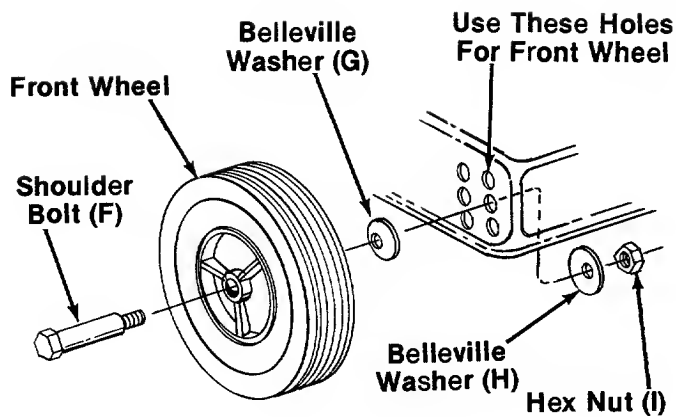

FIGURE 9.
14. **Units without height adjustment brackets**—If the wheels on your mower are not already assembled, proceed as follows. The front wheels must be assembled in one of the three holes nearest the front of the deck. See figure 9. The rear wheels must be assembled in one of the three holes nearest the rear of the deck. The three holes provide three cutting heights for your mower. Use the same hole location for all four wheels when assembling. If wheels are to be assembled in the lowest cutting position (highest hole in the deck), refer to the note below.
To assemble the wheels (see figure 9):